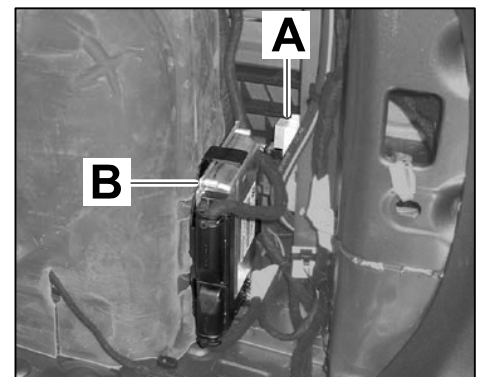

Figure 19
3.7 Plug in connector E (green, ⇒ *Figure 19 -A-*) on connector strip for 4DR connection point at the top.
Fit level adjustment control unit ⇒ *Figure 19 -B-*) into bracket and press clamp into control unit support.
4.1.1 Draw the embossed marking for the relevant trailer hitch variant on the inside of the rear apron with a clearly visible pen ⇒ *Figure 19*.